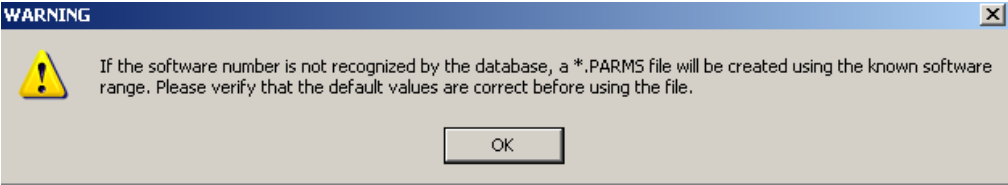

Figure 3.17: Inverter Information
- 3. A warning message (Figure 3.17) will come up indicating that if the designated software number that you entered in the software number window is not in the selected database, the latest software number in the database will be used as a default. Click on **OK** to continue.